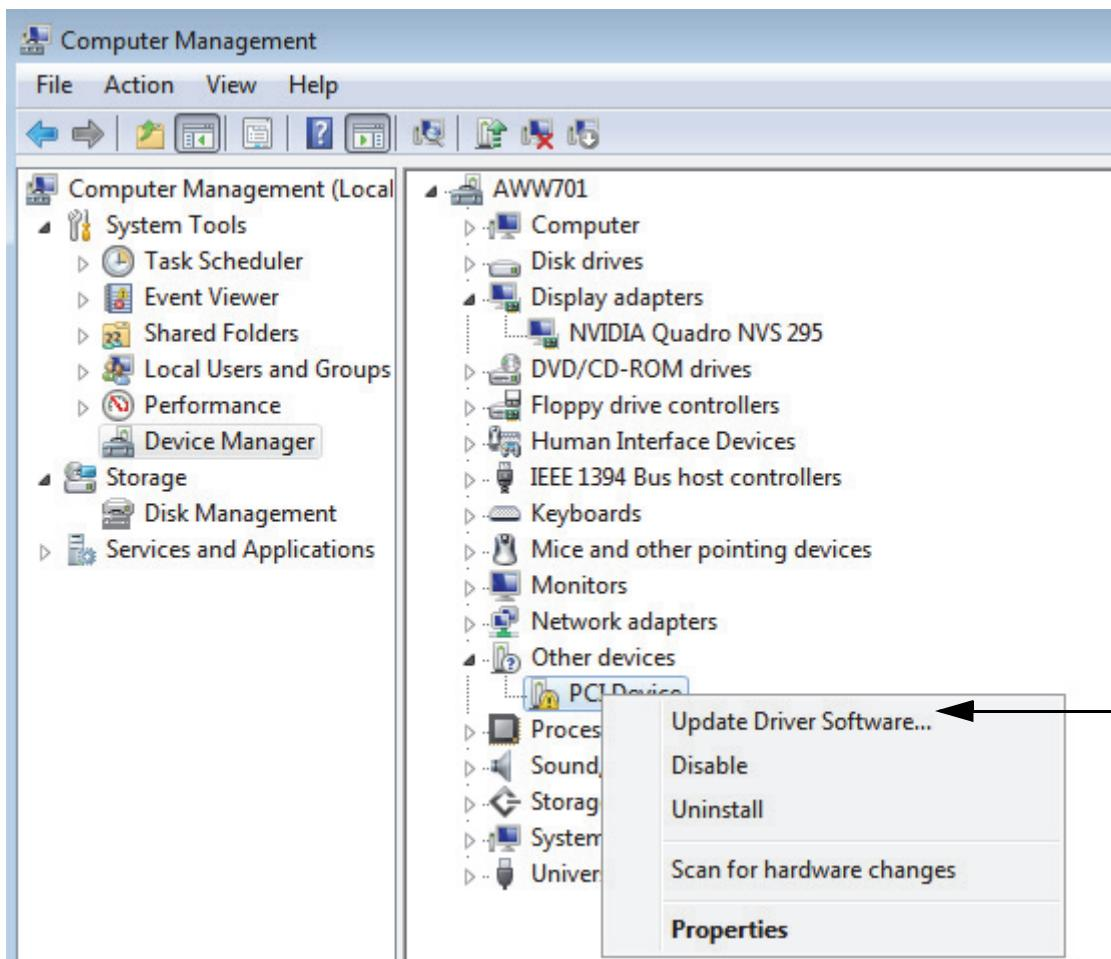

Figure 5-19. Device Manager PCI Device Window
4. Right-click the PCI Device and select **Update Driver Software** as shown in Figure 5-19.